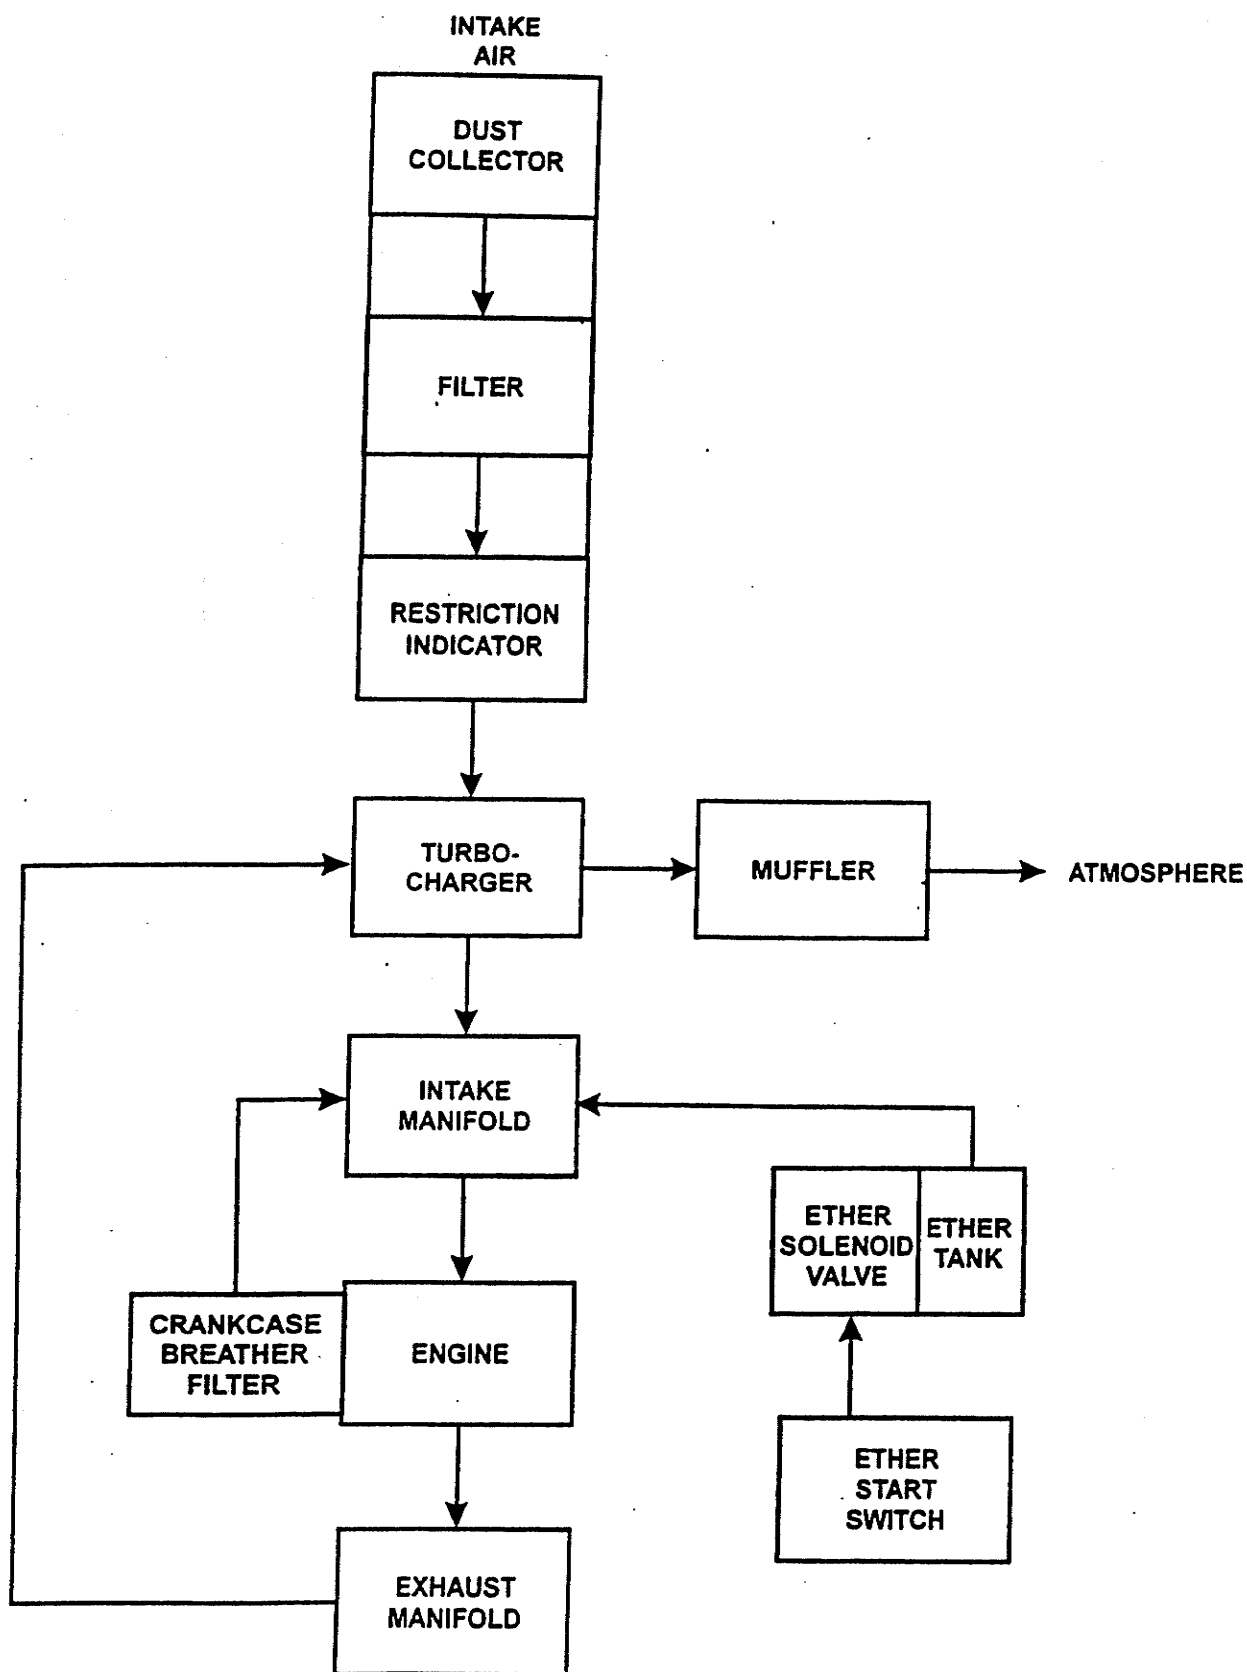

FIGURE 1-26. ENGINE AIR INTAKE AND EXHAUST SYSTEM FLOW DIAGRAM
- 1.16.10.1 The Engine Air Intake and Exhaust System (Figure 1-26) consists of an air cleaner assembly, intake manifold, ether supply tank, ether solenoid valve, ETHER START switch, exhaust manifold, turbocharger, muffler, and crankcase breather filter. The air cleaner assembly includes a dust collector, filter element, restriction indicator, and dust evacuator valve.